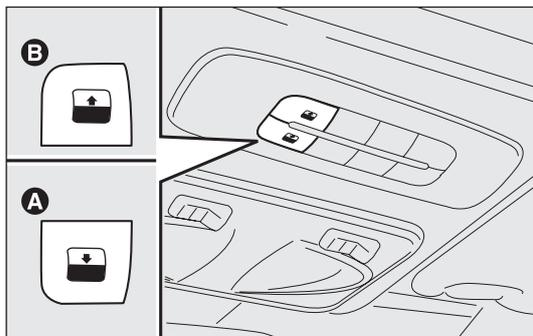

fig. 76
The sunroof can be operated only with the ignition key turned to MAR. Controls A-B fig. 76, located on a dedicated control panel near the front ceiling light, open and close the sunroof.
Press and hold button B-fig. 76, and the front pane will set to the “spoiler” position; press button B again for over half a second to make the sunroof slide automatically to the wide open position; press the button once more to stop the sunroof at an intermediate position.
From the wide open position, press button A-fig. 76 for over half a second to set the front pane to the “spoiler” position; press the button again to stop the sunroof at an intermediate position; press button A once more and hold it down to close the sunroof completely.
- press button A-fig. 76 at close position;